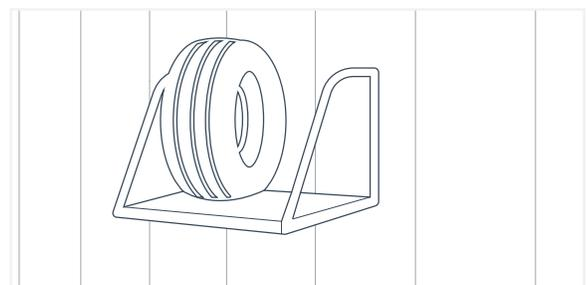

Fig. 60
6. Fasten the item to the wall with the spacers behind. (Fig. 60)